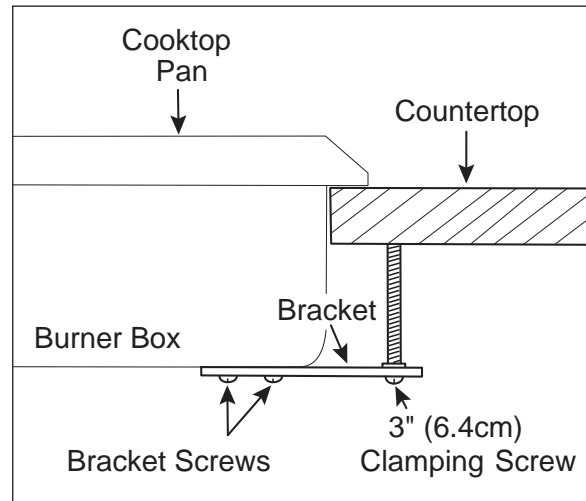

Fig. 3-9. Holding Clamp
- Install pressure regulator with arrow on regulator pointing up towards unit and in a position where you can reach the access cap. (See Figure 3-9).